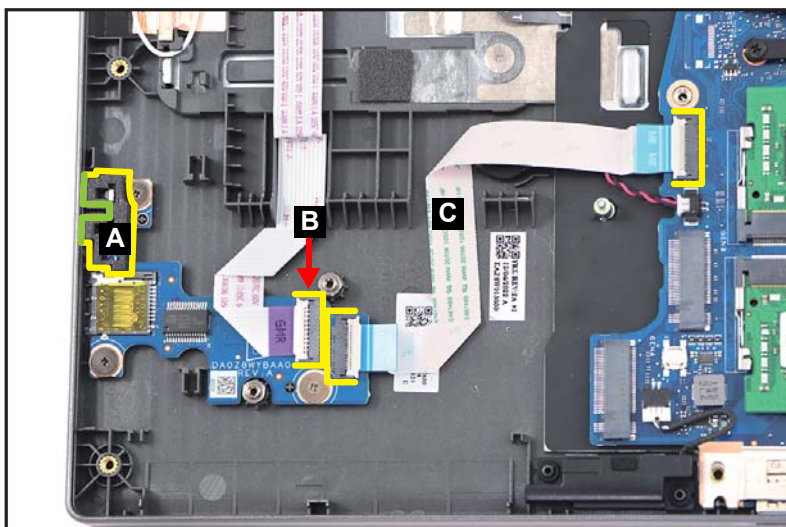

Figure 1-32. Card Reader Board Removal
1. Detach the sponge (A) from the card reader board (Figure 1-32).
2. Disconnect the smart card reader FFC from the card reader board connector (B) (Figure 1-32).
3. Disconnect the card reader board FFC (C) from the card reader board and mainboard connectors (Figure 1-32). Then remove the FFC.